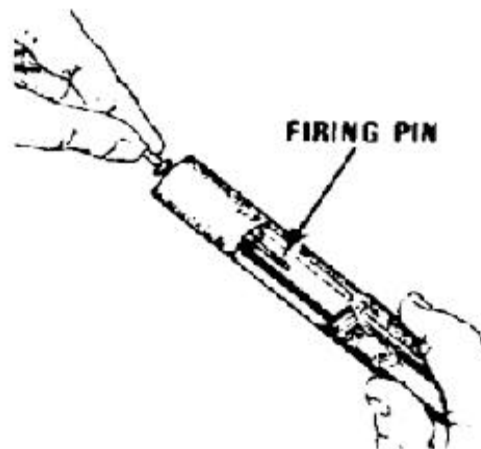

Figure E-29. Placing the firing pin.
f. Drop in the firing pin to seat it (figure E-29).